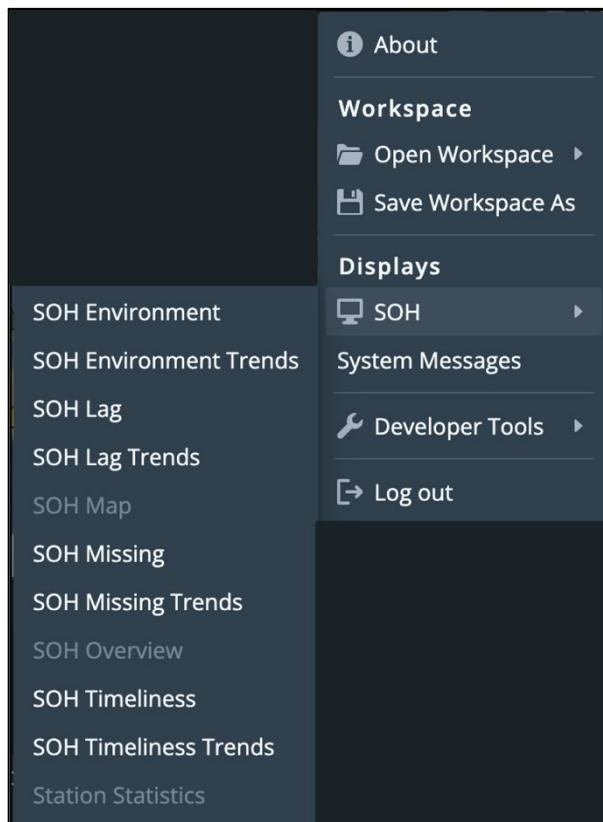

Figure 12. SOH Menu Options.
- 4) SOH – Adds workspace displays. Only one display instance can be open at a time. Displays already open are grayed out within the SOH submenu. For example, in Figure 12, the Station Statistics display is grayed out because it is already open.